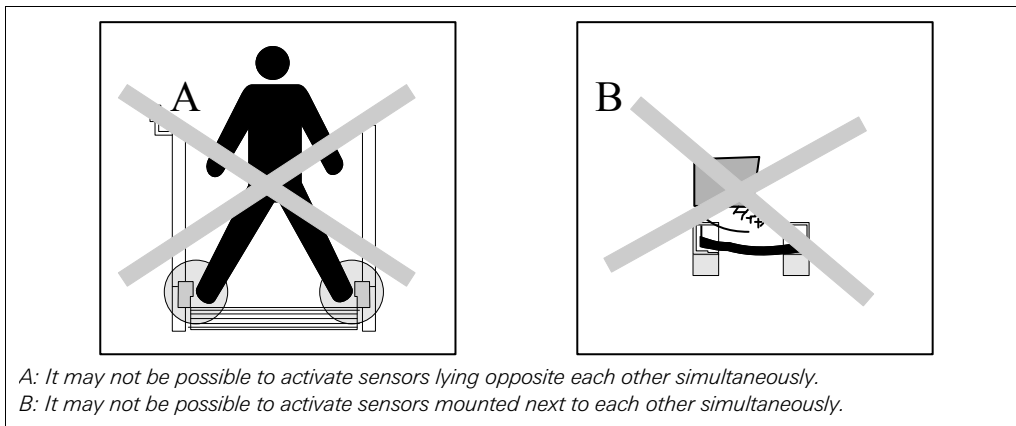

Fig. 167: Safety when mounting the muting sensors
- The muting sensors have to be positioned in such a way that muting cannot be triggered unintentionally by anyone (see Fig. 167).